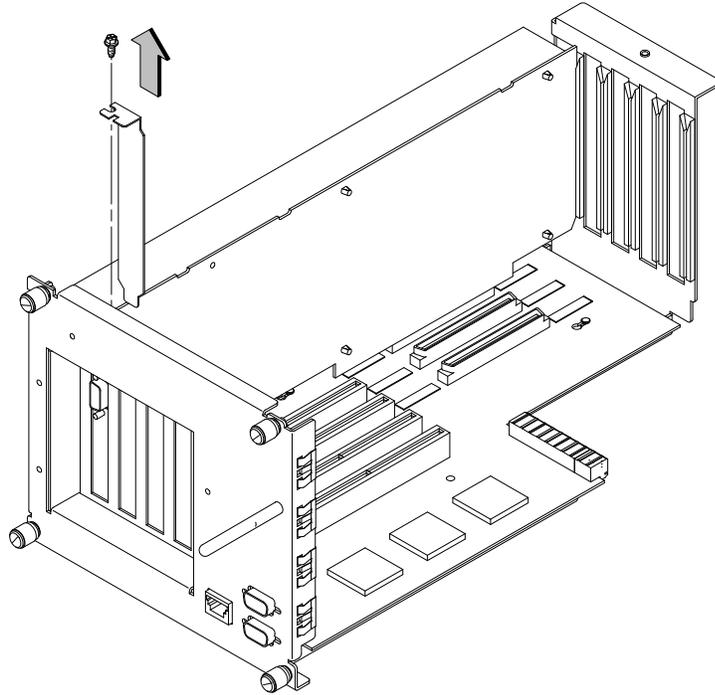

Figure A-35. Removing the EISA Slot Cover
4. Unscrew one screw at the top of the slot cover and pull the cover straight up to remove it. See Figure A-35.